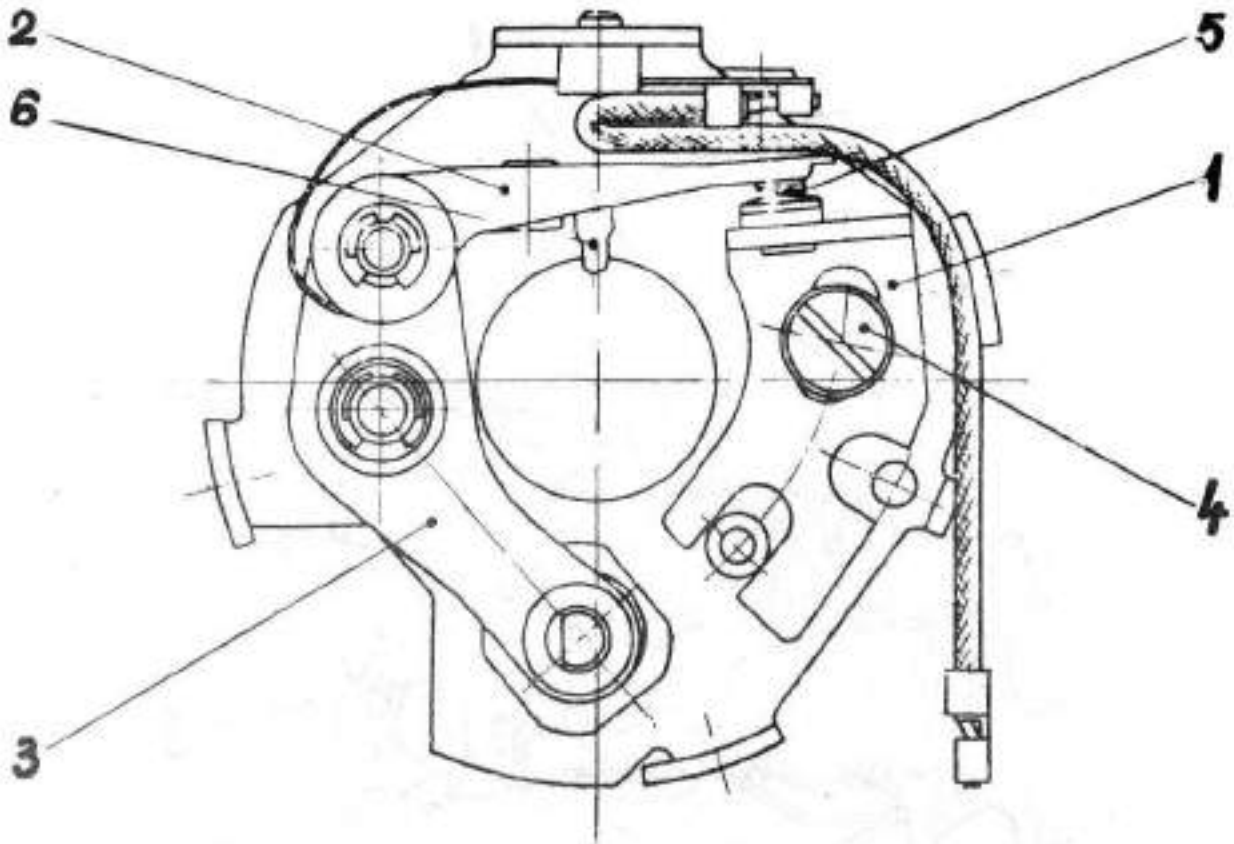

Fig.2.18. IGNITION BREAKER MECHANISM.
- In this position the gap should be comprised between 0.35 and 0.45 mm. If not, slacken screw (4) fastening timing clamp (1) and adjust its position, untill the points gap reaches the above mentionned value. Check gap by means of feeler gauge blades (see fig.2.18).